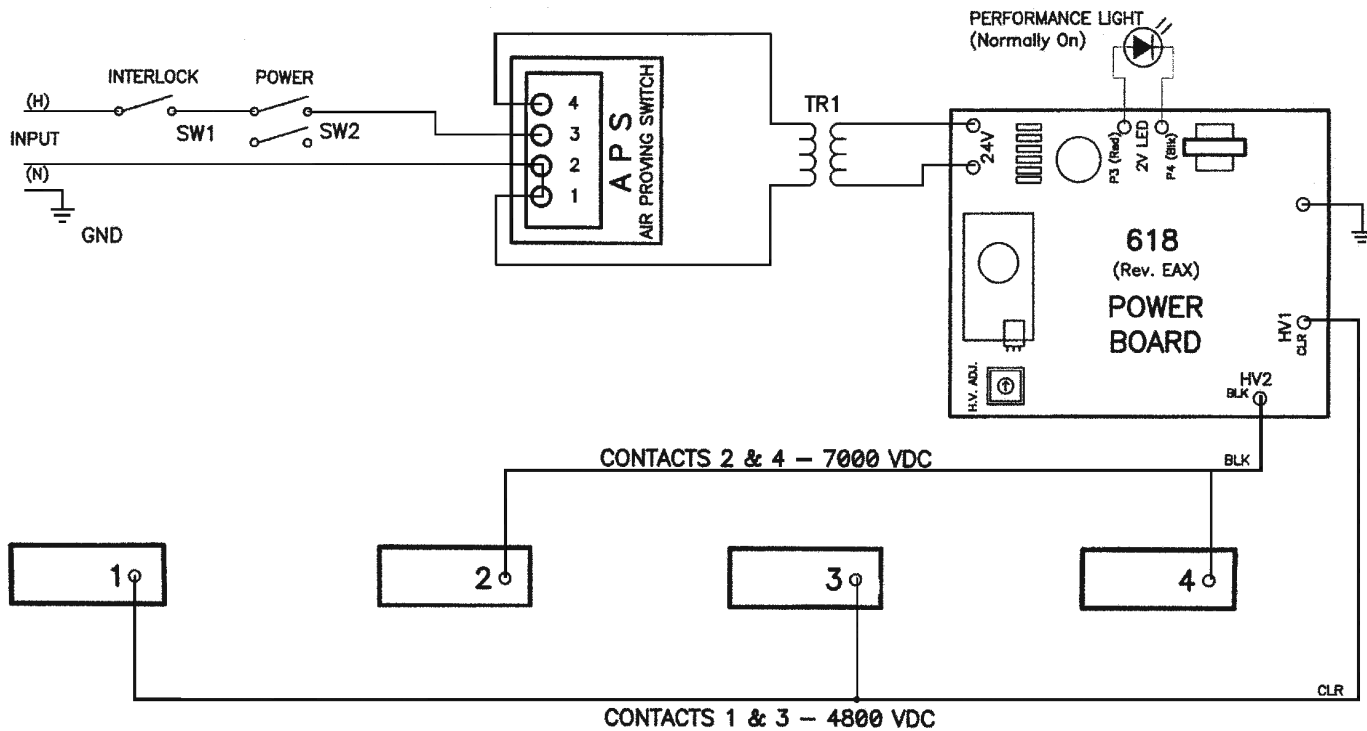

Fig. 3 — Wiring Schematic
Wire the electronic air cleaner directly to the 120-v power source. The APS will power the electronic air cleaner when there is sufficient airflow to activate the sensor. See Fig. 3.
- Disconnect the wiring from terminals 1, 2, 3, and 4 on the APS. See Fig. 3.
- Connect the wiring to terminals on the APS. See Fig. 3. Wiring from the power source is connected to terminals 2 and 3. Wiring to the power board is connected to terminals 1 and 4.
- Connect the wiring to the LED terminals on the power board. See Fig. 3.
2. Disconnect the wiring from the LED, HV1, HV2, and 24 v terminals. See Fig. 3.
3. Disconnect the leads of the 24-v transformer from the power board. See Fig. 3.
2. Disconnect the secondary leads from the transformer to the 24 v terminals on the power board. See Fig. 3.